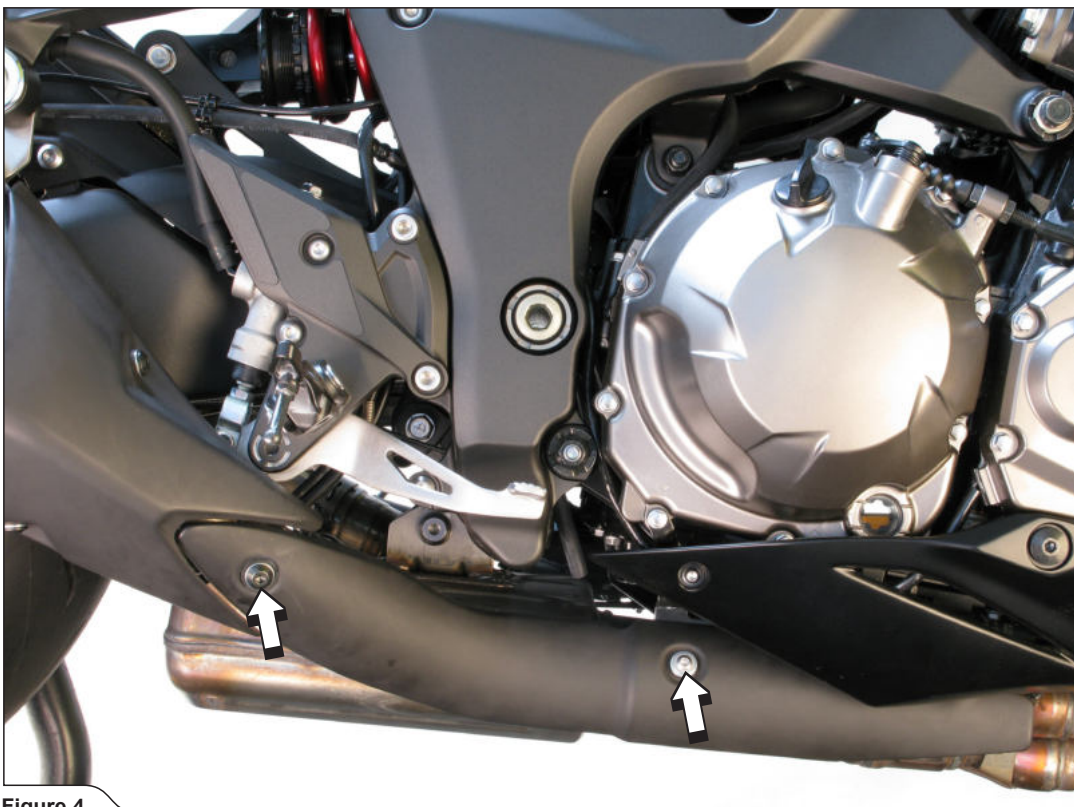

Figure 4
4. Unscrew the marked bolts and carefully remove the heat shield off the motorcycle (Figure 4).